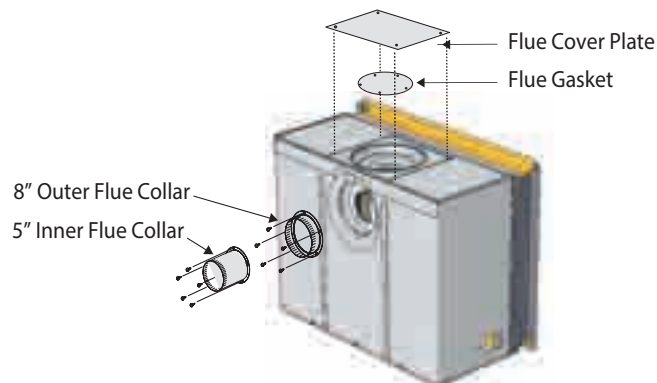

Figure 9a. Flue cover and collar installation, Rear Vented fireplace.
3. Install the (removed) Rear flue cover and gasket material, to the Top vent outlet. Fasten the cover with included hardware, as illustrated Figure 9a.
4. Install the (5" and 8") collars to the rear vent outlet using the included hardware, as illustrated Figure 9a.